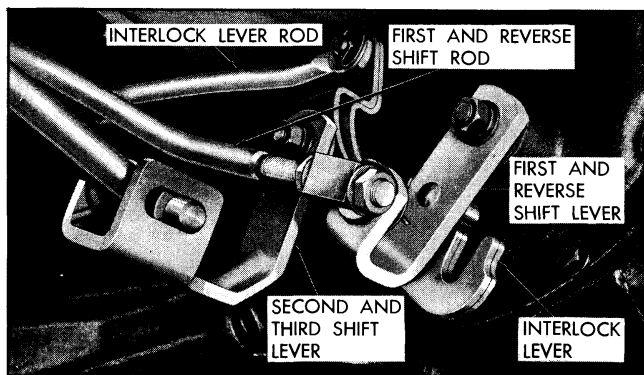

Fig. 7A-8 Gearshift Linkage
2. Disconnect shift rods and levers at transmission side cover, (Fig. 7A-8), uncuring cover to side of case and withdraw side cover